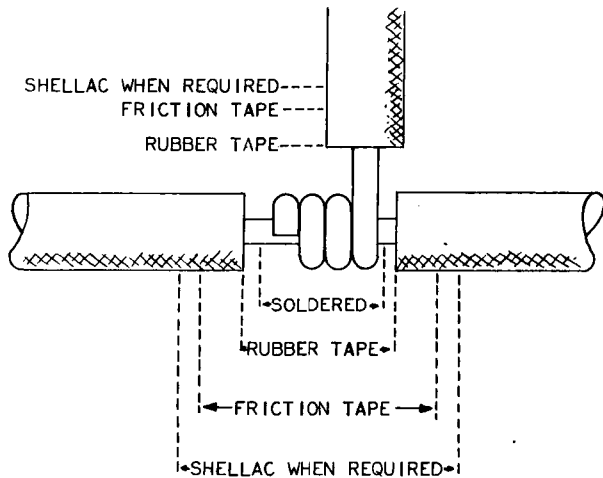

FIG. 7 "T" SPLICE (PAR. 6.51)
6.51 The solder type "T" splice is used for tapping small gauge power wires to a continuous power wire run of a small gauge. Make as shown in Figure 7. Determine the entire splice has taken the solder.
6.52 Apply tape within dimensions shown in Figure 7 and as described in Paragraph 6.15.